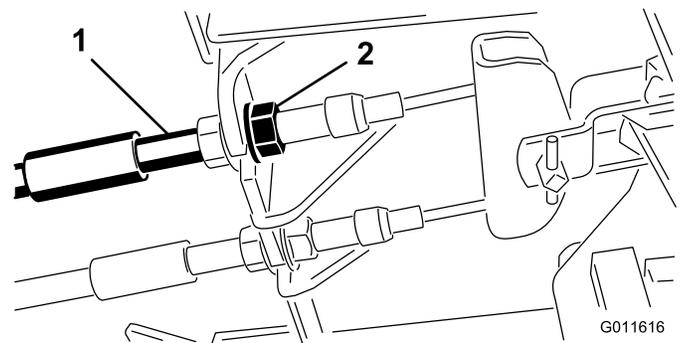

Figure 87
1. To reduce free travel of the brake pedals, tighten the brakes by loosening the front nut on the threaded end of the brake cable (Figure 87).